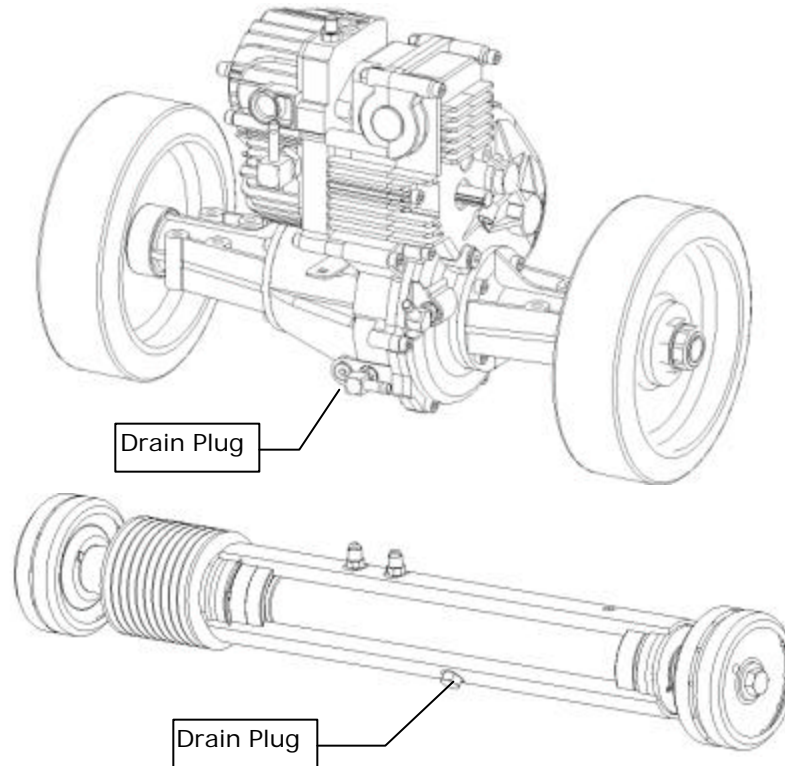

**Fig. 42 — The Hydraulic System**
3. Remove the used oil filter. **See Fig. 42.**